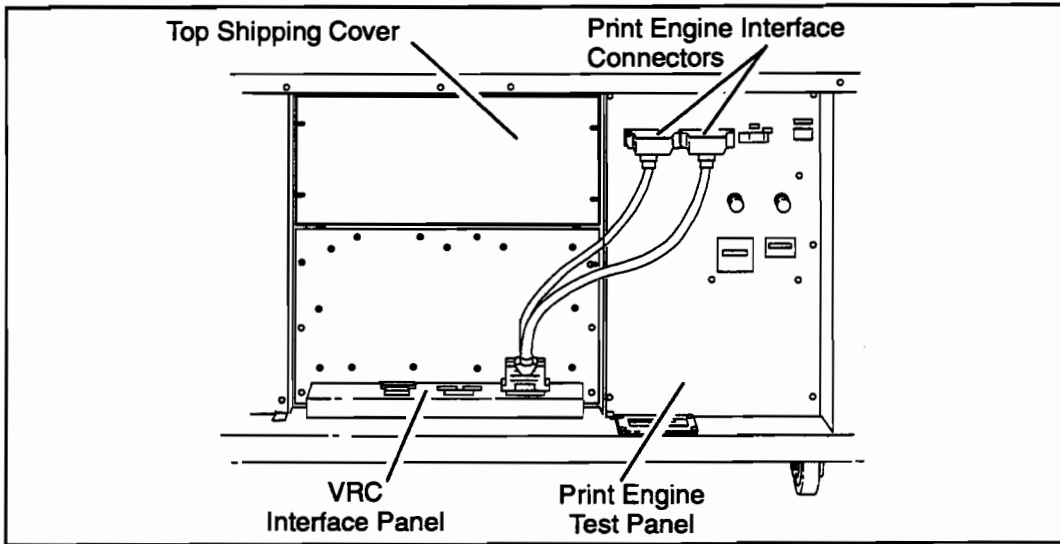

Figure 3-12. VRC to Print Engine Cables
10. Attach the L-shaped end of the cable to the CTRL I/F connector on the Test Panel. Secure the connector using the screws provided. The result of attaching the VRC to print engine interconnect cables is shown in Figure 3-12.